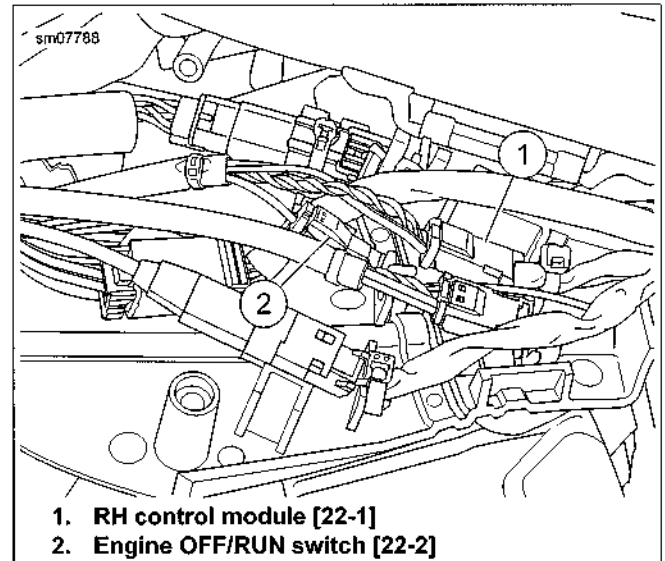

Figure 6-113. RH Switch Connectors [22-1] [22-2]
4. See Figure 6-113. Separate RH control module connector housings [22B-1] (1) and engine OFF/RUN switch connector [22B-2] (2) housings.